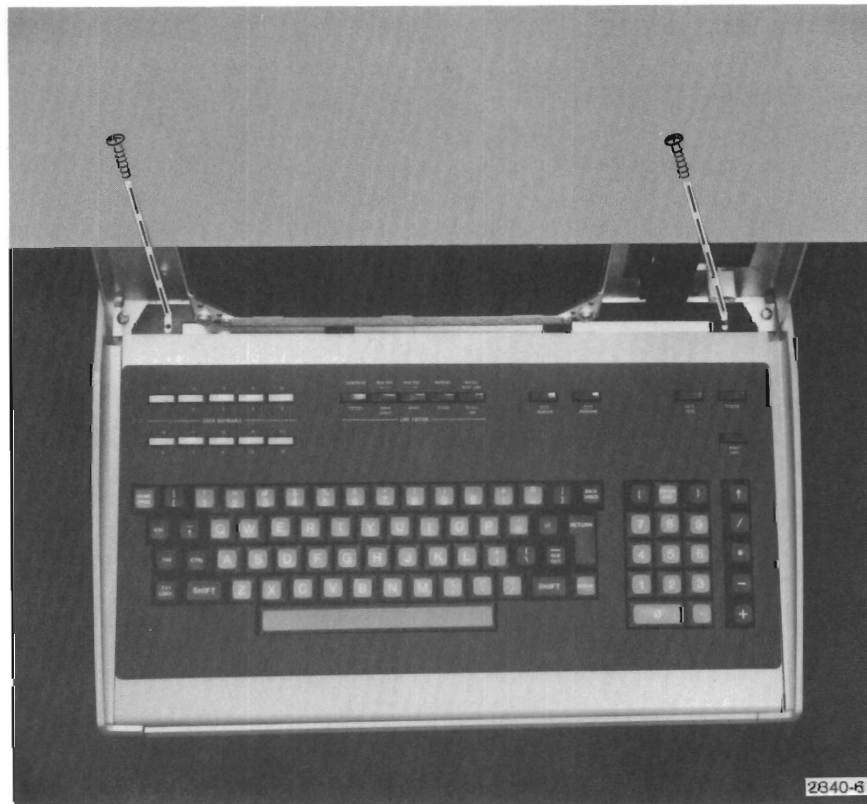

Figure 3-12. Keyboard Screw Removal.
3. Use the Phillips screwdriver to remove the screws that secure the keyboard (Figure 3-12).